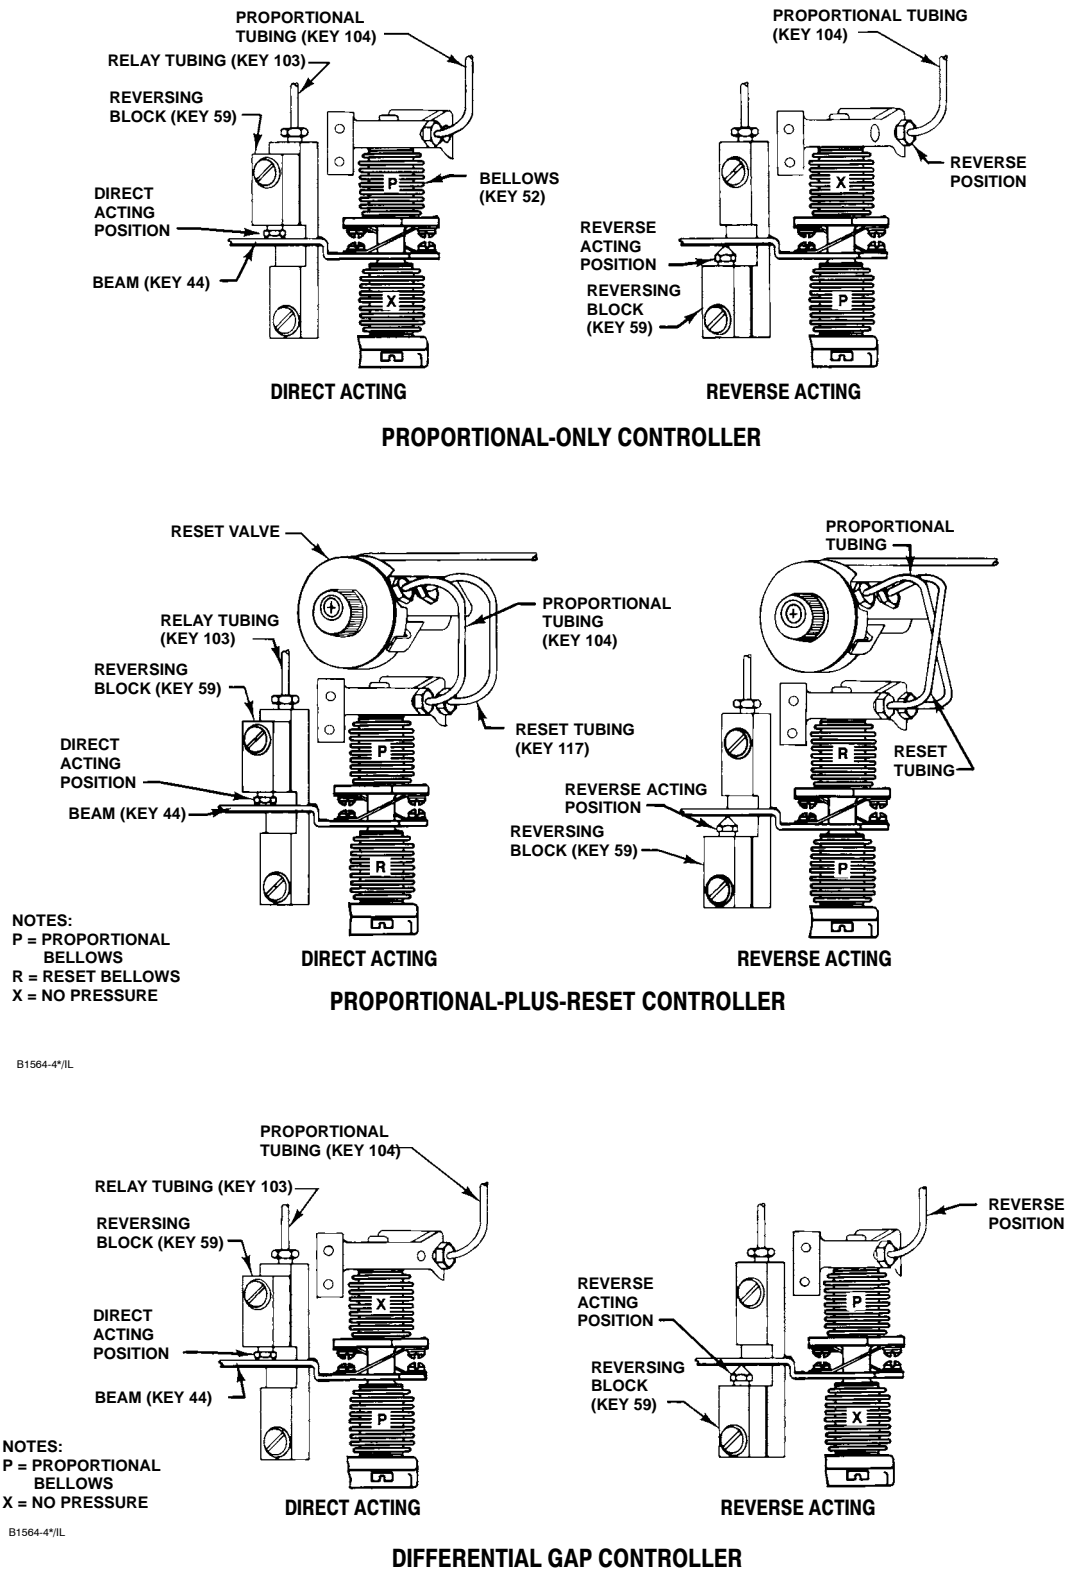

Figure 15. Direct/Reverse Acting Tubing Connections
Controller action is changed from direct to reverse, and vice versa, by moving the reversing block and bellows connection as shown in figure 15. With the controller in the reverse-acting mode, an increase in process temperature causes a decrease in output pressure.
It is possible to change a proportional-only controller to a differential gap controller, or vice versa, by changing the position of the proportional tubing (key 104, figure 15).
Key numbers are shown in figure 15 unless otherwise noted.